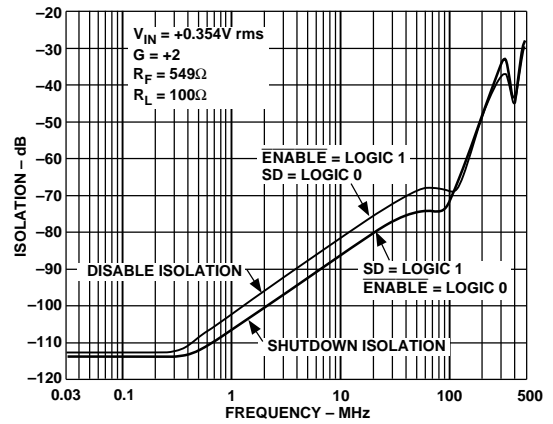

Figure 14. AD8174R Disable and Shutdown Isolation vs. Frequency
- AD8174 only. Shutdown (SD) pin is grounded. Mux is disabled, (i.e.,  $\overline{\text{ENABLE}} = \text{Logic 1}$ ) and all inputs are driven simultaneously with  $V_{IN} = 0.354$  V rms. Output is monitored at  $f = 5$  MHz and 30 MHz;  $R_L = 100$  Ω. In this mode, the output impedance of the disabled mux is very high (typ 10 MΩ), and the signal couples across the package; the load impedance and the feedback network determine the crosstalk. For instance, in a closed-loop gain of +1,  $r_{\text{OUT}} \cong 10$  MΩ, in a gain of +2 ( $R_F = R_G = 549$  Ω),  $r_{\text{OUT}} = 1.1$  kΩ (see Figure 14).
- AD8174 only.  $\overline{\text{ENABLE}}$  pin is grounded. Mux is shutdown (i.e., SD = Logic 1), and all inputs are driven simultaneously with  $V_{IN} = 0.354$  V rms. Output is monitored at  $f = 5$  MHz and 30 MHz;  $R_L = 100$  Ω. (see Figure 14). The mux output impedance in shutdown mode is the same as the disabled mux output impedance.